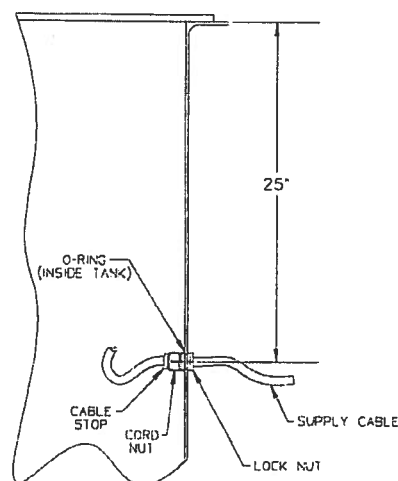

FIGURE 4 - SUPPLY CABLE INSTALLATION
The supply cable path and cord grip location should be considered when selecting the inlet location (Section 8 and Figure 4). If the site conditions require concrete tank ballast to prevent flotation, ensure that the volume of concrete used complies with the site
8. Supply Cable Installation (Figures 4 & 5)
cable cord grip provides a leak tight seal around the power cable as it enters the tank and will prevent movement of the supply cable during burial and subsequent ground settlement. The cord grip should be installed in a position on the tank that will provide convenient, direct routing of the supply cable to the alarm panel. The supply cable cord grip should be installed 25" below the top of the tank (see Fig. 4).
Loosen the cord nut and slide the supply cable free end through the cord grip (Figure 4). Continue to slide the entire cable length through the cord grip until the metal cable stop rests against the cord grip face. Tighten the cord nut until snug. Failure to tighten the cord nut will result in groundwater entering the station.